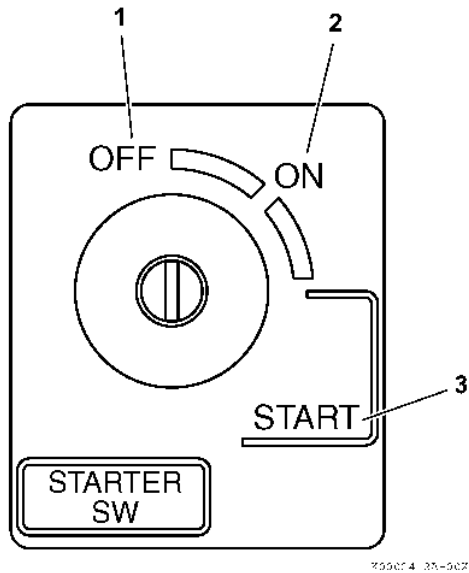

Figure 36
OFF (key straight up and down) (Figure 36, (1)) - When you turn the key to this position the engine shuts down. Electric current to the battery, low engine oil shutdown device and other electric devices is shut off. The key can be inserted and removed from this position.
ON (Figure 36, (2)) - This is the position the key will be in when the engine is running. After starting engine, key switch will automatically return to this position.
START (Figure 36, (3)) - Turn the key to this position to start the engine. As soon as the engine starts, release the key and it will automatically return to the ON position.